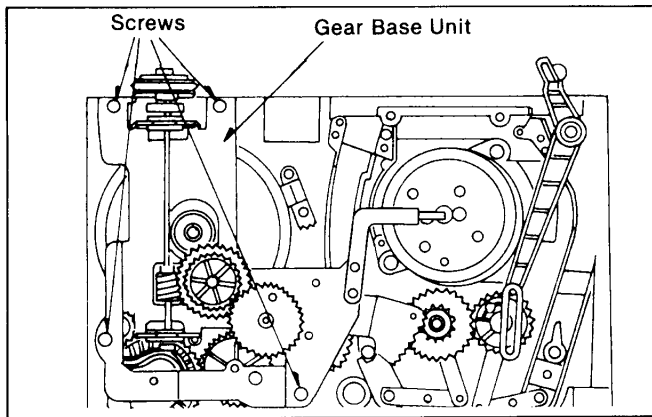
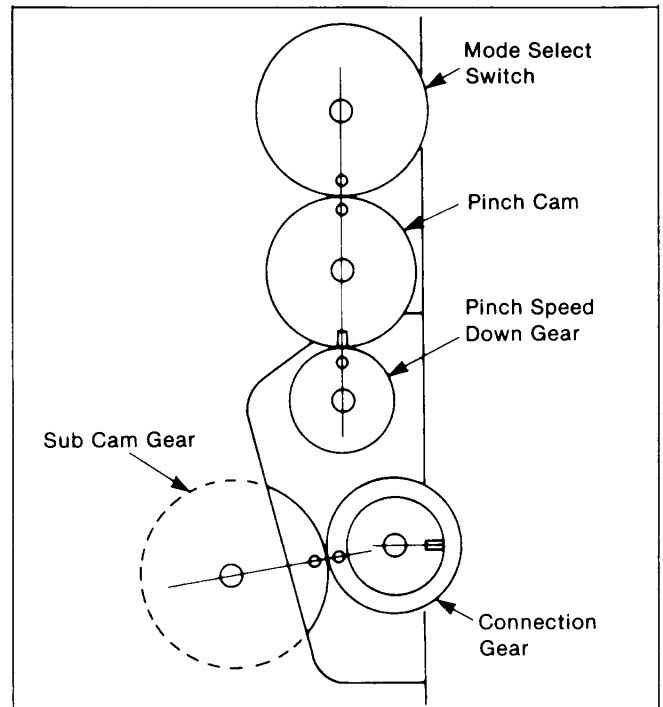
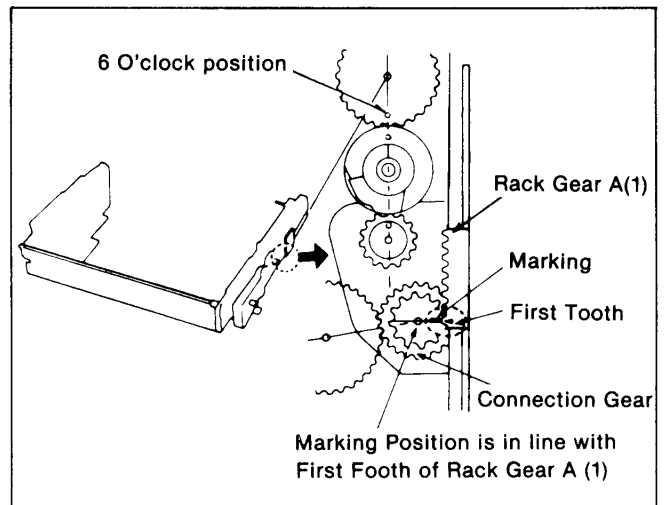

Figure M45
Figure M46 Top View of Overall IQ-Mechanical Condition
Figure M64
The overall mechanical condition (alignment) of bottom and top view are shown in Figure M45 and Figure M46. This mechanical adjustment is performed in the STOP mode.
2. Unscrew 4 screws and remove the Gear Base Unit.(Figure M45)
4. Identification hole on the Mode Select Switch at 6 o'clock position and aligned with small hole on Pinch Cam as shown in Figure M46.
5. P5 Arm is completely loading position and the Inclined Base (S) and (T) are completely unloading position.
3. Confirm that the small hole on Sub Cam Gear is aligned with the small hole on Connection Gear as shown in Figure M46 (In case of the Connection Gear is already installed).
Before assembling, Sub Cam Gear position (and positions of bottom side gears) must be correct as described before (Figure M46).
2. Confirm that the chassis is aligned properly for Alignment Condition as shown in Figure M46 and M47.
3. Put the Sub Wiper Arm (R) in its full down position (Sub Wiper Arm should rest on plastic protrusion on the bottom of the right side plate).
4. Install the cassette compartment (without cassette holder) to chassis so that the rectangular marking (or slot) on the connection gear should be in line up with first tooth of the Rack Gear as shown in Figure M64 and M65.